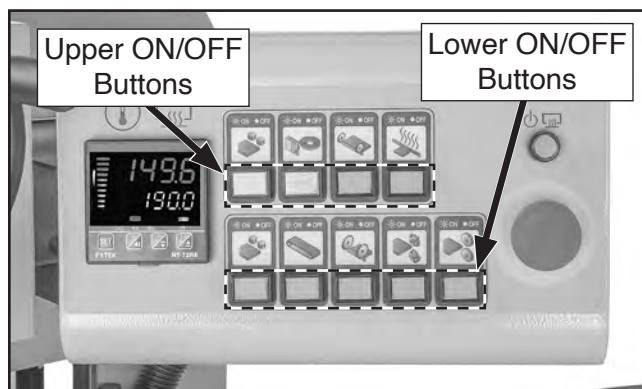

Figure 41. Upper and lower ON/OFF buttons.
13. Press all upper and lower ON/OFF buttons (see **Figure 41**) to turn pre-heating block and all sensors and motors **ON**.